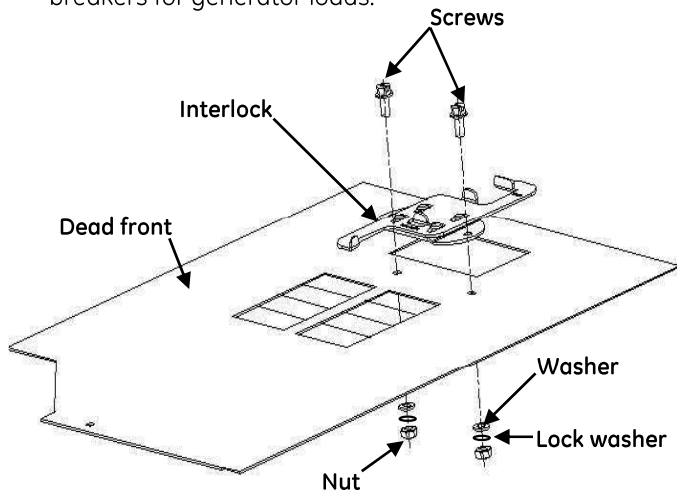

Figure 3: Interlock Installation
2. Mount the interlock using the screws, washers, lock washers and nuts provided in the kit (see Figure 3). Tighten to 45 lbs-in (5 N-m).